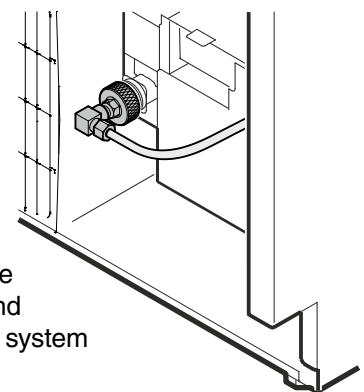

Figure 18
8. Screw the adapter onto the solenoid valve (**Figure 18**).